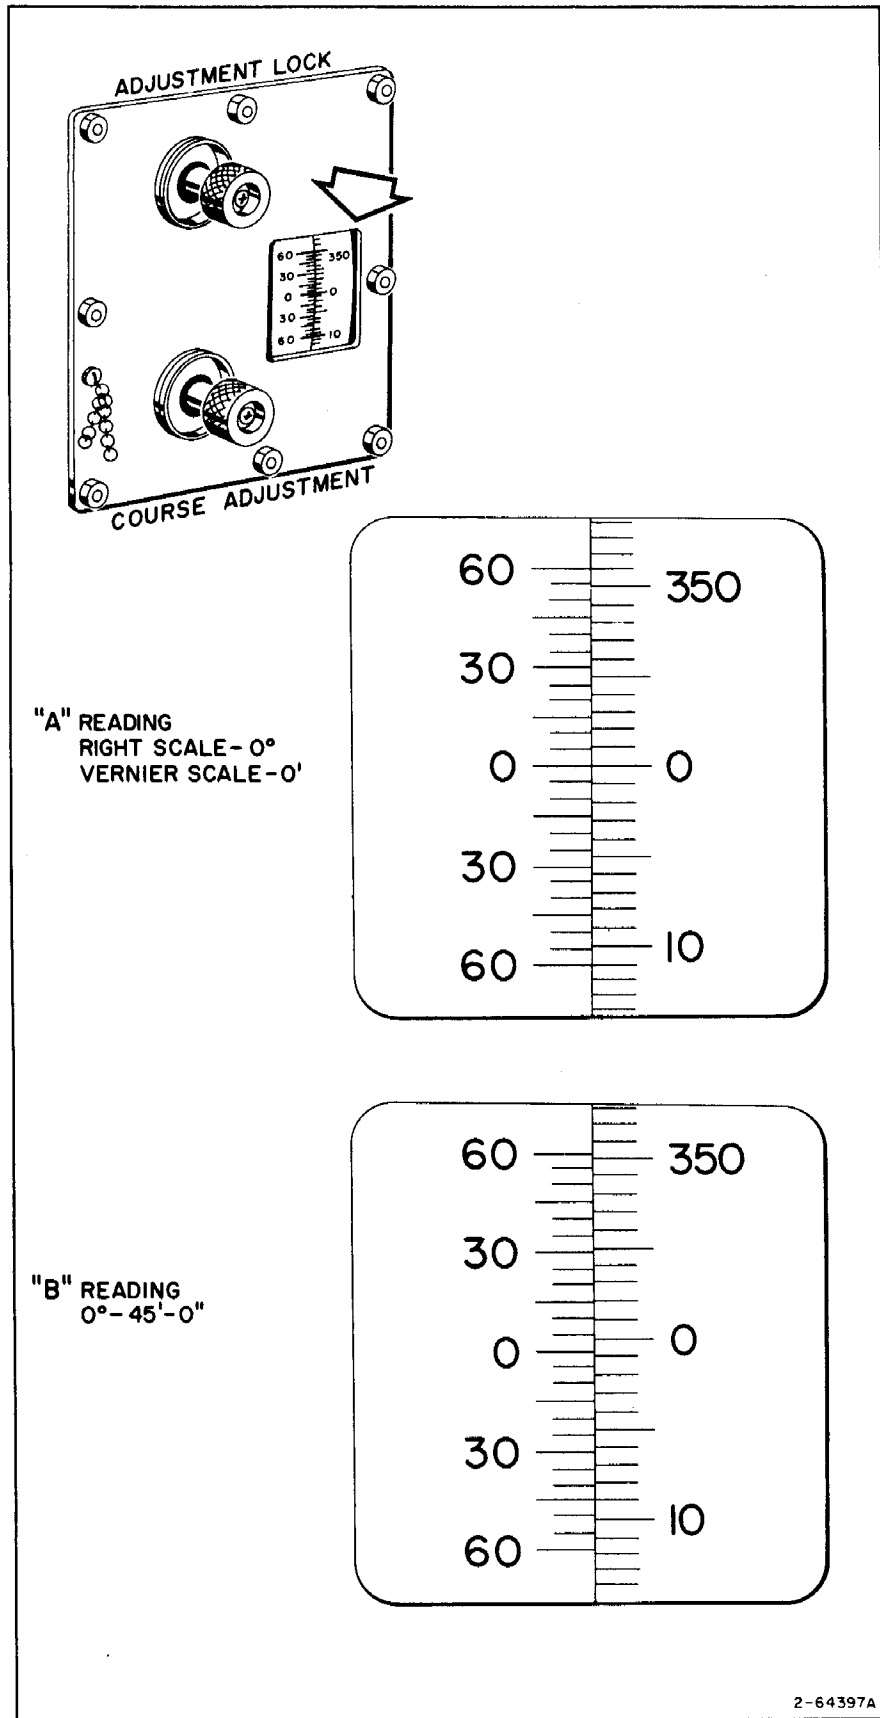

Figure 4-5. ATRAN Course Reference Adjustment (Effectivity C)
- c. Rotate LOCK ADJUSTMENT control counterclockwise to unlock the ATRAN COURSE REFERENCE dial. (See figure 4-5.)